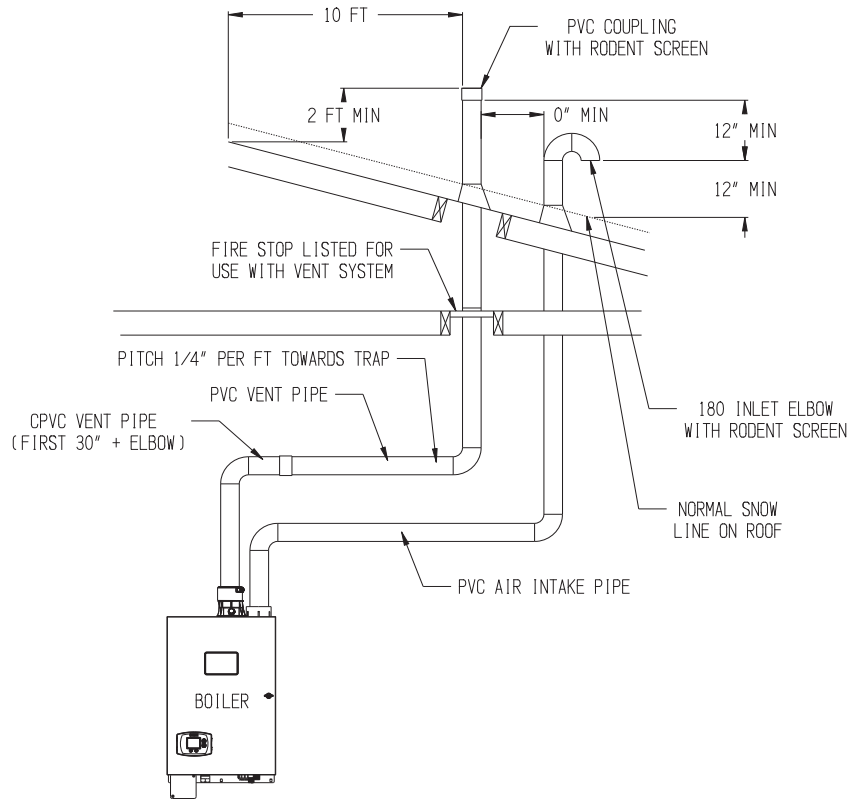

FIGURE 7.12: VERTICAL CPVC/PVC VENTING, (VENT OPTIONS 10 & 11, TERMINAL OPTION H)
Terminal Option H: Fittings – Vent terminates in a plain end (coupling for PVC. Intake terminates in a PVC 180 elbow pointing down (two sweep 90's may be substituted). Observe the clearances from the roof, and normal snow line on the roof, shown in Figures 7.12 and 7.13.
- For terminal option H, maintain at least 12" of vertical separation between the exhaust and intake opening as shown in Figure 7.12.